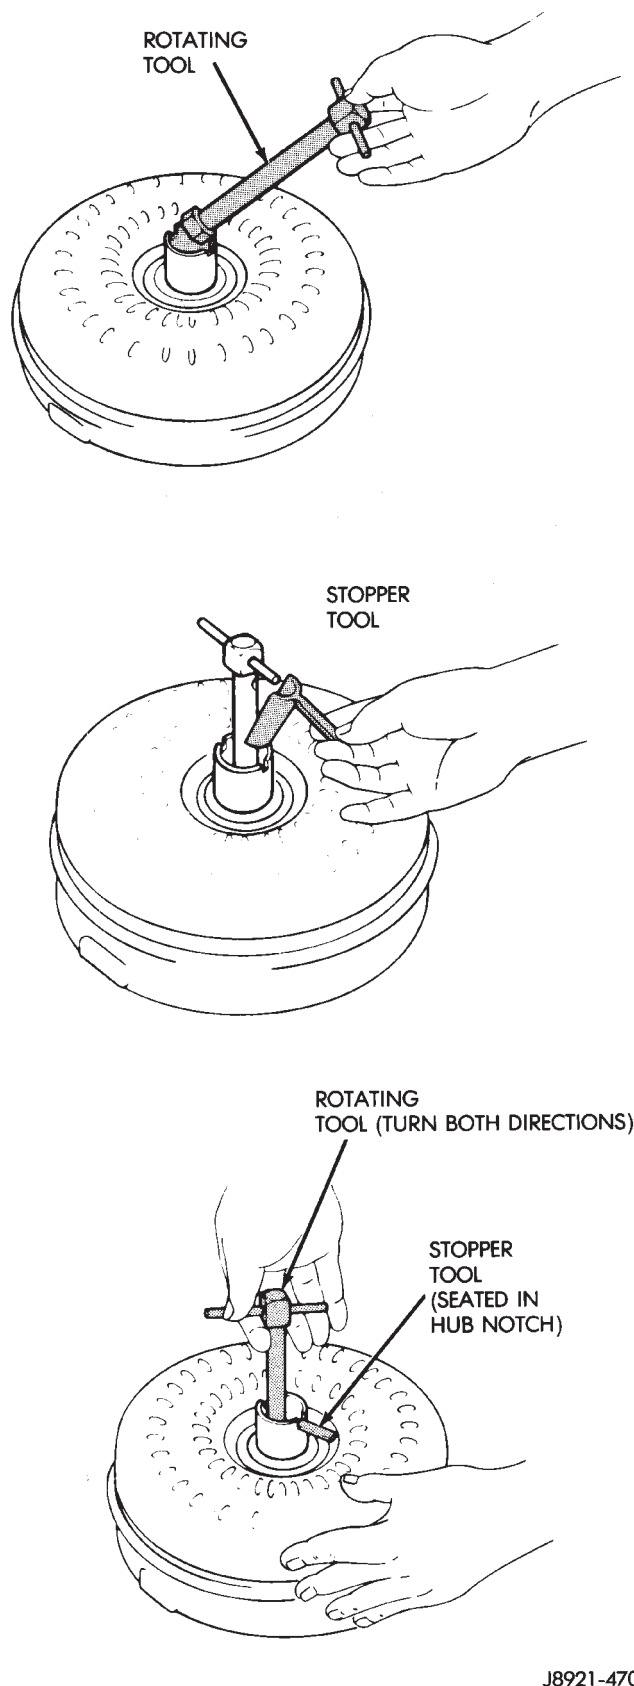

Fig. 53 Checking Operation Of Torque Converter Stator Overrunning Clutch
- (1) Insert Rotating Tool 7547 into converter hub and seat tool in one-way clutch (Fig. 53).
- (2) Insert Stopper Tool 7548 in one converter hub notch and into outer race of rotating tool.
- (3) Turn rotating tool clockwise. Converter clutch should rotate freely and smoothly. Less than 2.5 N•m (22 in. lbs.) of torque should be required to rotate clutch in clockwise direction.
- (4) Turn rotating tool in counterclockwise direction. Converter clutch should lock.
- (5) Replace converter if clutch binds or will not lock.